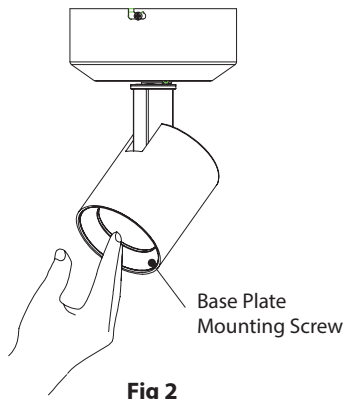

Fig 2
**Step 1:** Gently move front cap forward to remove it. One torsion spring will remain engaged while other will slide out completely. (See Fig 2)